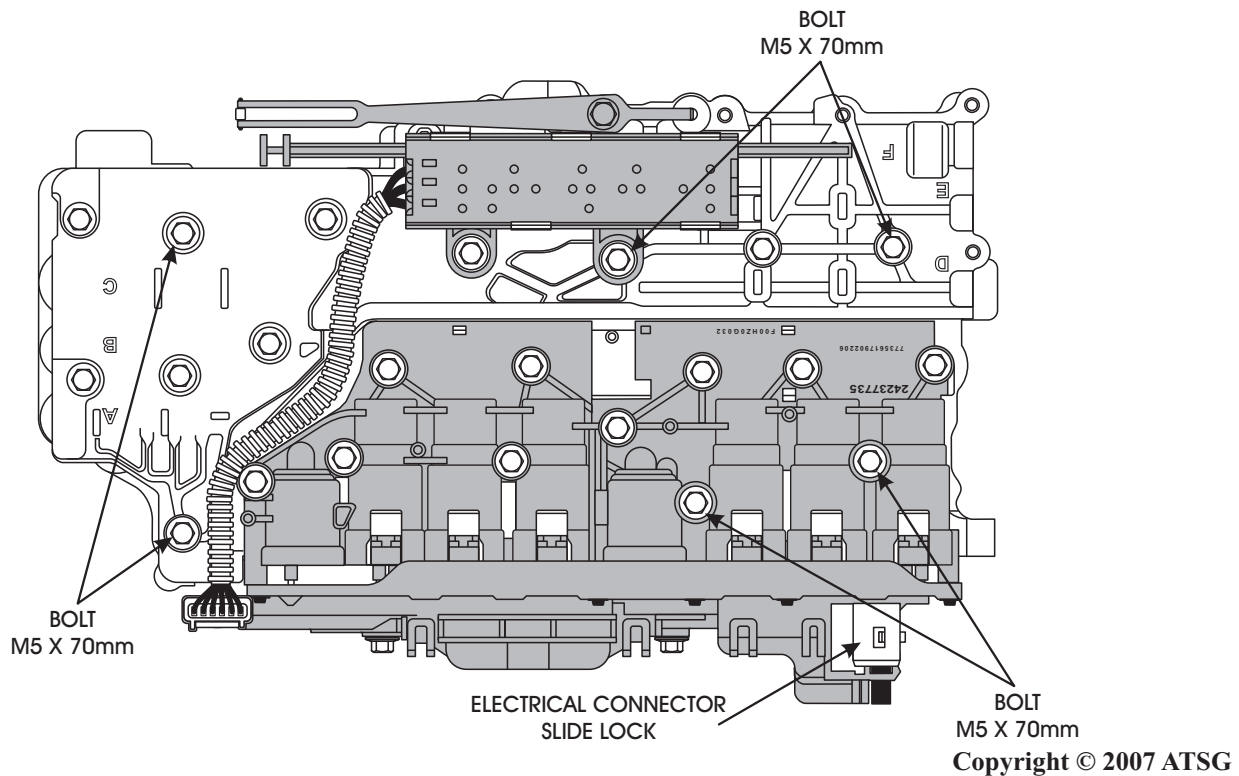

Figure 41
12. Do not remove all the valve body assembly bolts. Remove only the bolts indicated in Figure 41.